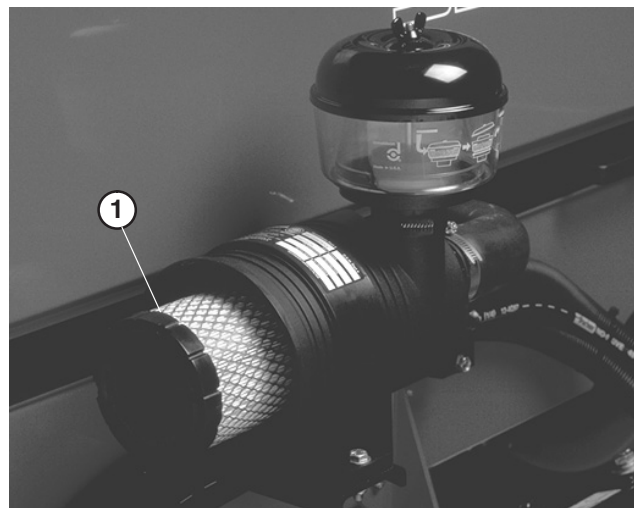

Figure 47
2. Remove and replace the primary filter (Fig. 47). Cleaning of the used element is not recommended due to the possibility of damage to the filter media. Inspect the new filter for shipping damage, checking the sealing end of the filter and the body. Do not use a damaged element. Insert the new filter by applying pressure to the outer rim of the element to seat it in the canister. Do not apply pressure to the flexible center of the filter.